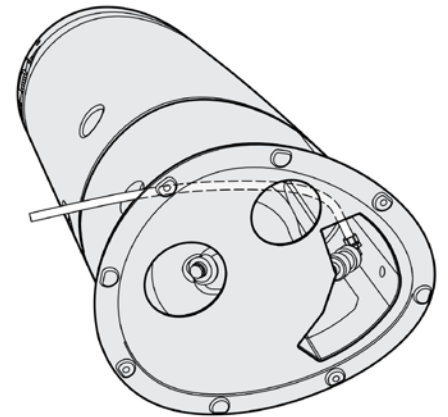

Figure 7. Discharge Tubing Connection
5. Wind the other end of the tubing through the hole in the base so that it comes out of the back of the base. See Figure 7.